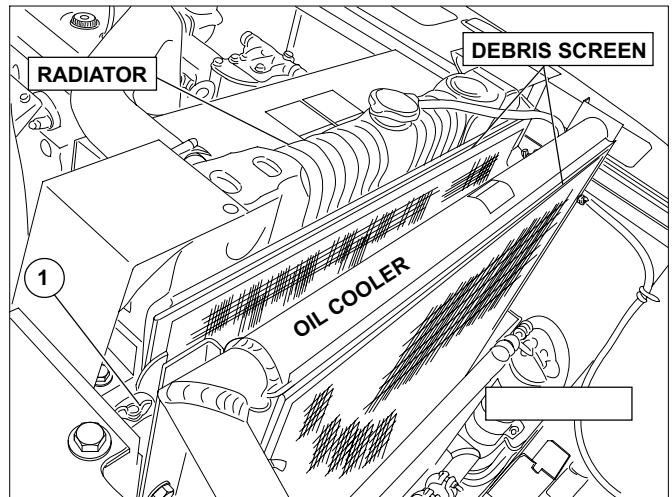

FIGURE 4.47B
3. On the SK210(LC) -VI, remove the two wing nuts ① and the radiator top cover (between the radiator and the oil cooler, see Fig. 4.47B). On the SK250(LC)-VI, remove the two wing nuts that hold the debris screen in front of the radiator and remove the screen.